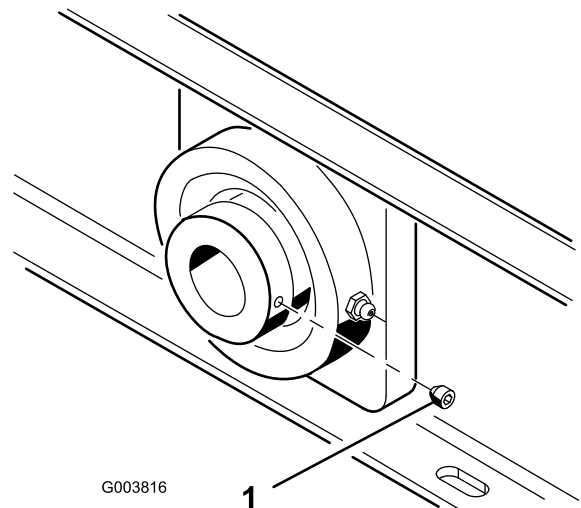

Figure 17
- The fan shaft bearing set screws (Figure 17) must be torqued to 58 to 82 in-lb.